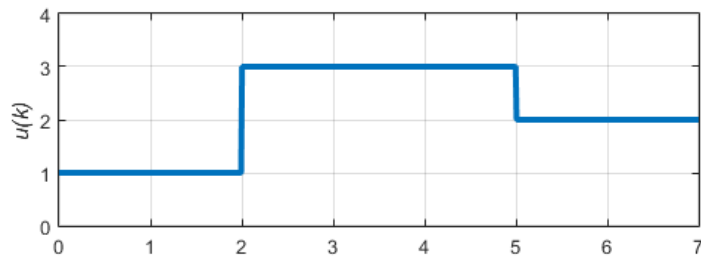

Figure 4. MPC solution at interval k with  $m=[2\ 3\ 2]$  and  $p=7$ .
*Manipulated variable blocking* is an alternative to the simpler control horizon concept, and it has many of the same benefits. Instead of using a scalar value to specify the control horizon, manipulated variable blocking divides the prediction horizon into a series of blocking intervals by specifying the control horizon as a vector of block sizes. The sum of the block sizes must match the prediction horizon  $p$ . This allows you to specify not only the desired number of MV moves, but also the duration of each move (as a multiple of the prediction sample time). Figure 4 shows